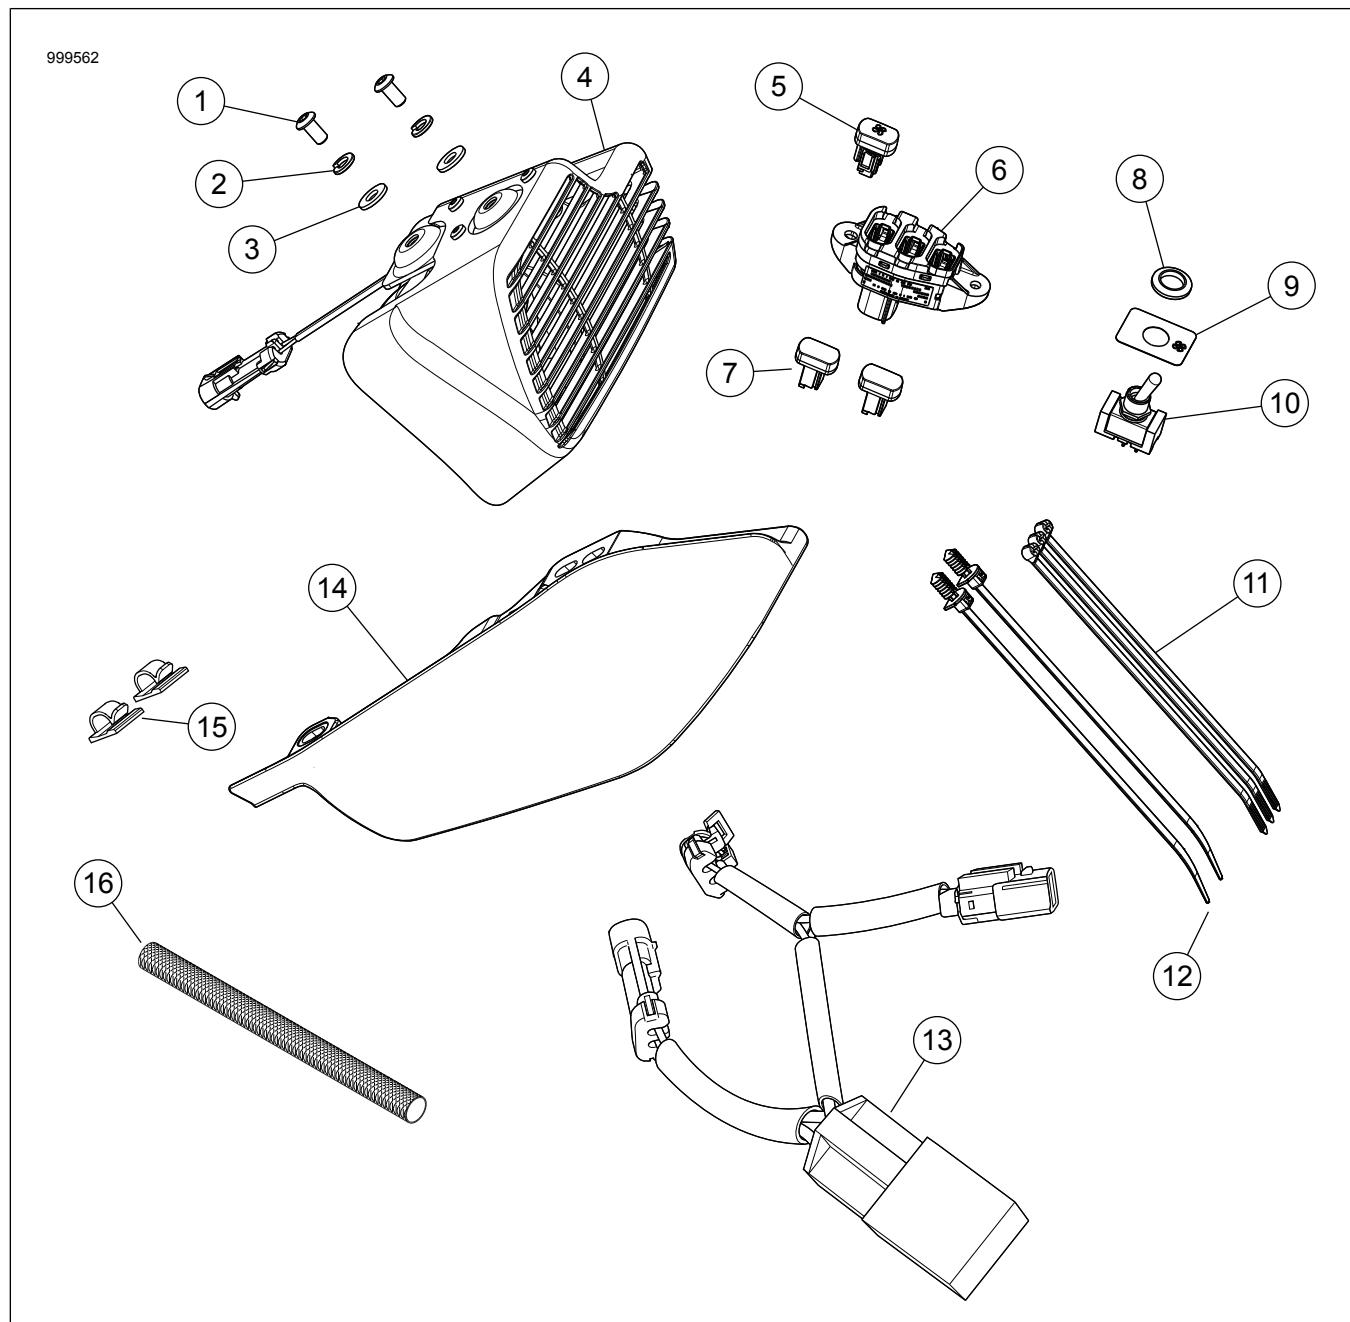

Figure 7. Service Parts: Fan Kit
See Figure 7 and Table 1.
1. See Figure 7. If previously equipped, install new mid-frame deflector (13).
5. See Figure 7. **Non-Fairing Switch Location:** Install fan switch (10).
6. See Figure 7. **Fairing Switch Location:** Install fan switch (5).
- c. Install fan switch (5) in far right location in switch module (6).
- d. Add switch blanks (7) in switch module, as needed.